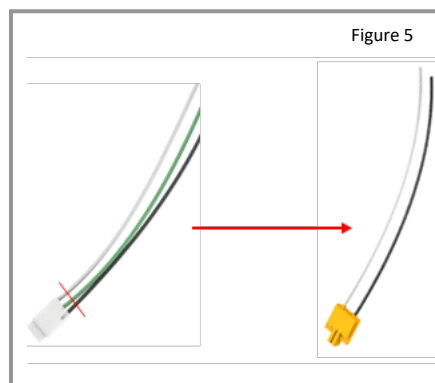

Figure 5
- Remove connector from leads coming from the currently installed ceiling frame and replace with compatible connector (male and female) provided by Solais (plugged into housing assembly) (*Figure 5*)